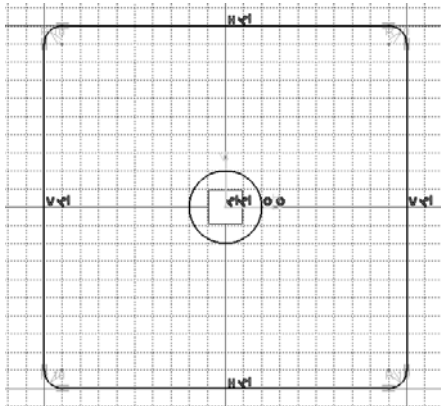

Figure 3-46 The sketch after drawing the circle
- Draw the inner loop of the sketch using the **Circle**, **Elongated Hole**, and **Cylindrical Elongated Hole** tools, refer to Figures 3-46 through 3-48.
2. Move the cursor horizontally toward the right and specify a point on the circle when the value of the radius is displayed as **20** in the **R** edit box. The sketch, after drawing the circle, is shown in Figure 3-46.